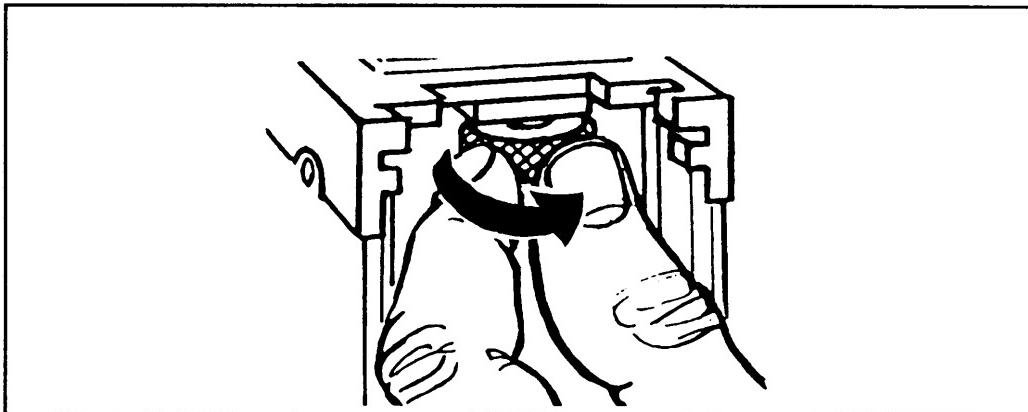

Figure 3-25. Adjusting the timing nut.
- (7) Remove the gauge, cock the gun, and return the bolt forward
- (8) Insert the fire gauge.
(9) Remove the backplate.
(10) Screw the timing adjustment nut all the way down until it touches the trigger lever (Figure 3-25).